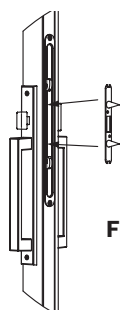
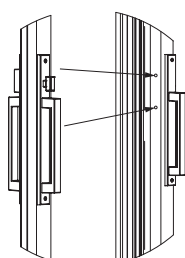

Figure 9
Figure 10
12. To locate the keeper position on the jamb on the panel with the dummy handle, place black locator within the latch (Figure 9) and close the active panel strong enough to dimple the side jamb (Figure 10).